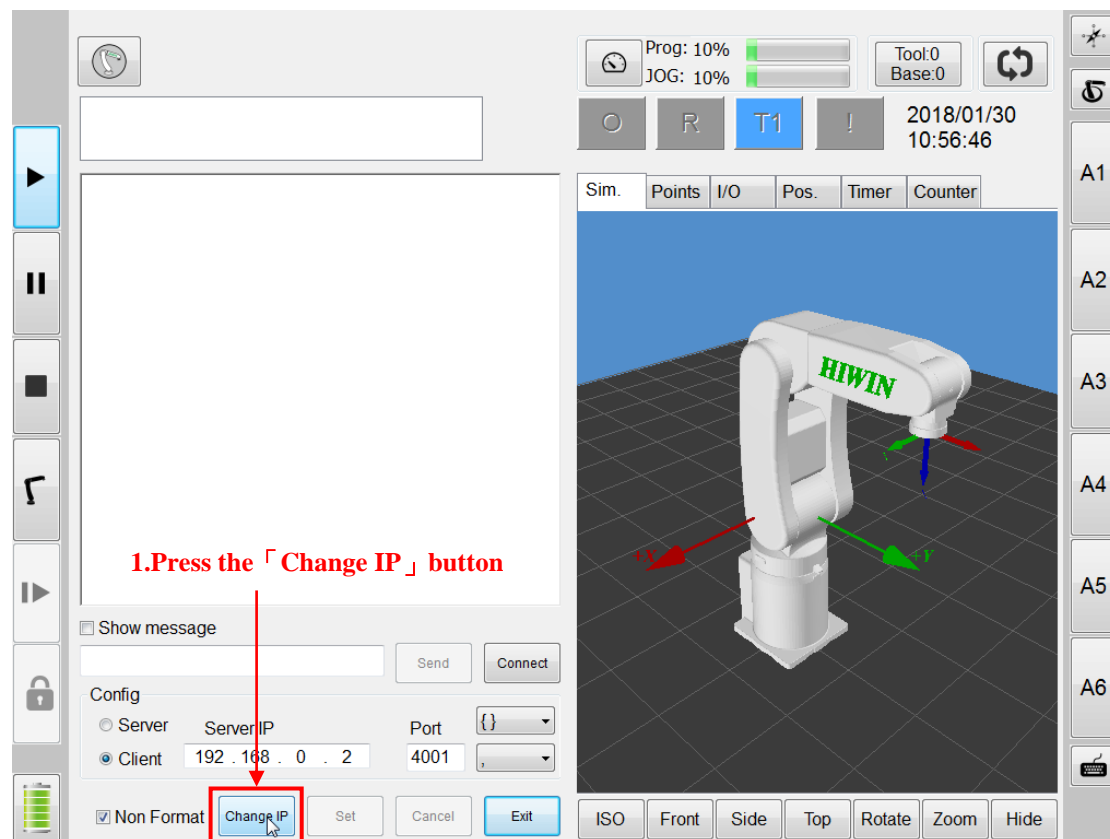

Figure 4-10 Press the "Change IP" button
1. Press the "Change IP" button as shown in Figure 4-10.